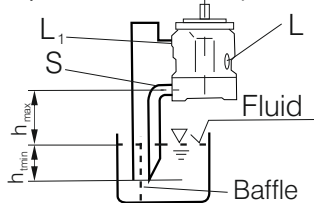

Fig.2
- If the minimum fluid level is below the pump mounting face pipe port "L" and "S" according to Fig.2.
Before installation fill the pump housing, keeping it in a horizontal position. For mounting above reservoir see Fig.2.